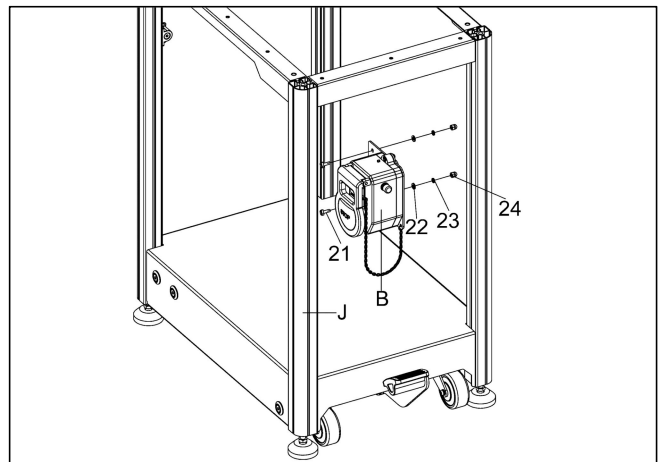

Fig.10
g. To mount the power switch (B), install the switch at the appropriate position of the leg (J). The switch should be mounted near the foot pedal side with the provided fasteners (#21, #22, #23, and #24) as shown in **Fig.10**.